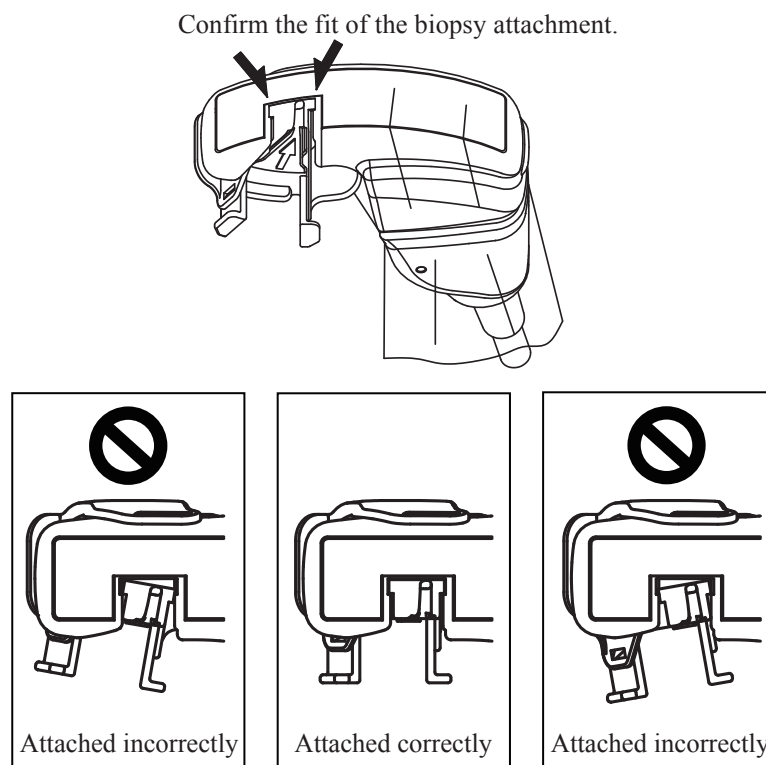

Figure 13 Confirmation of the attachment
- (9) Confirm that the biopsy attachment is properly attached to the probe (Figure 13). Visually inspect that there is no hole or tear in the probe cover. Set a new probe cover if a hole or tear is found.